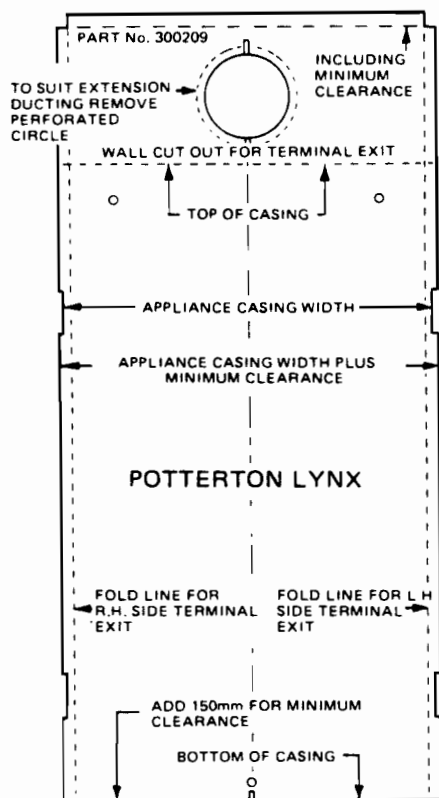

FIG. 13 WALL FIXING TEMPLATE
2. THE WALL FIXING TEMPLATE (Fig. 13)
- Tape the wall fixing template to the wall in the selected position (see Fig. 13).